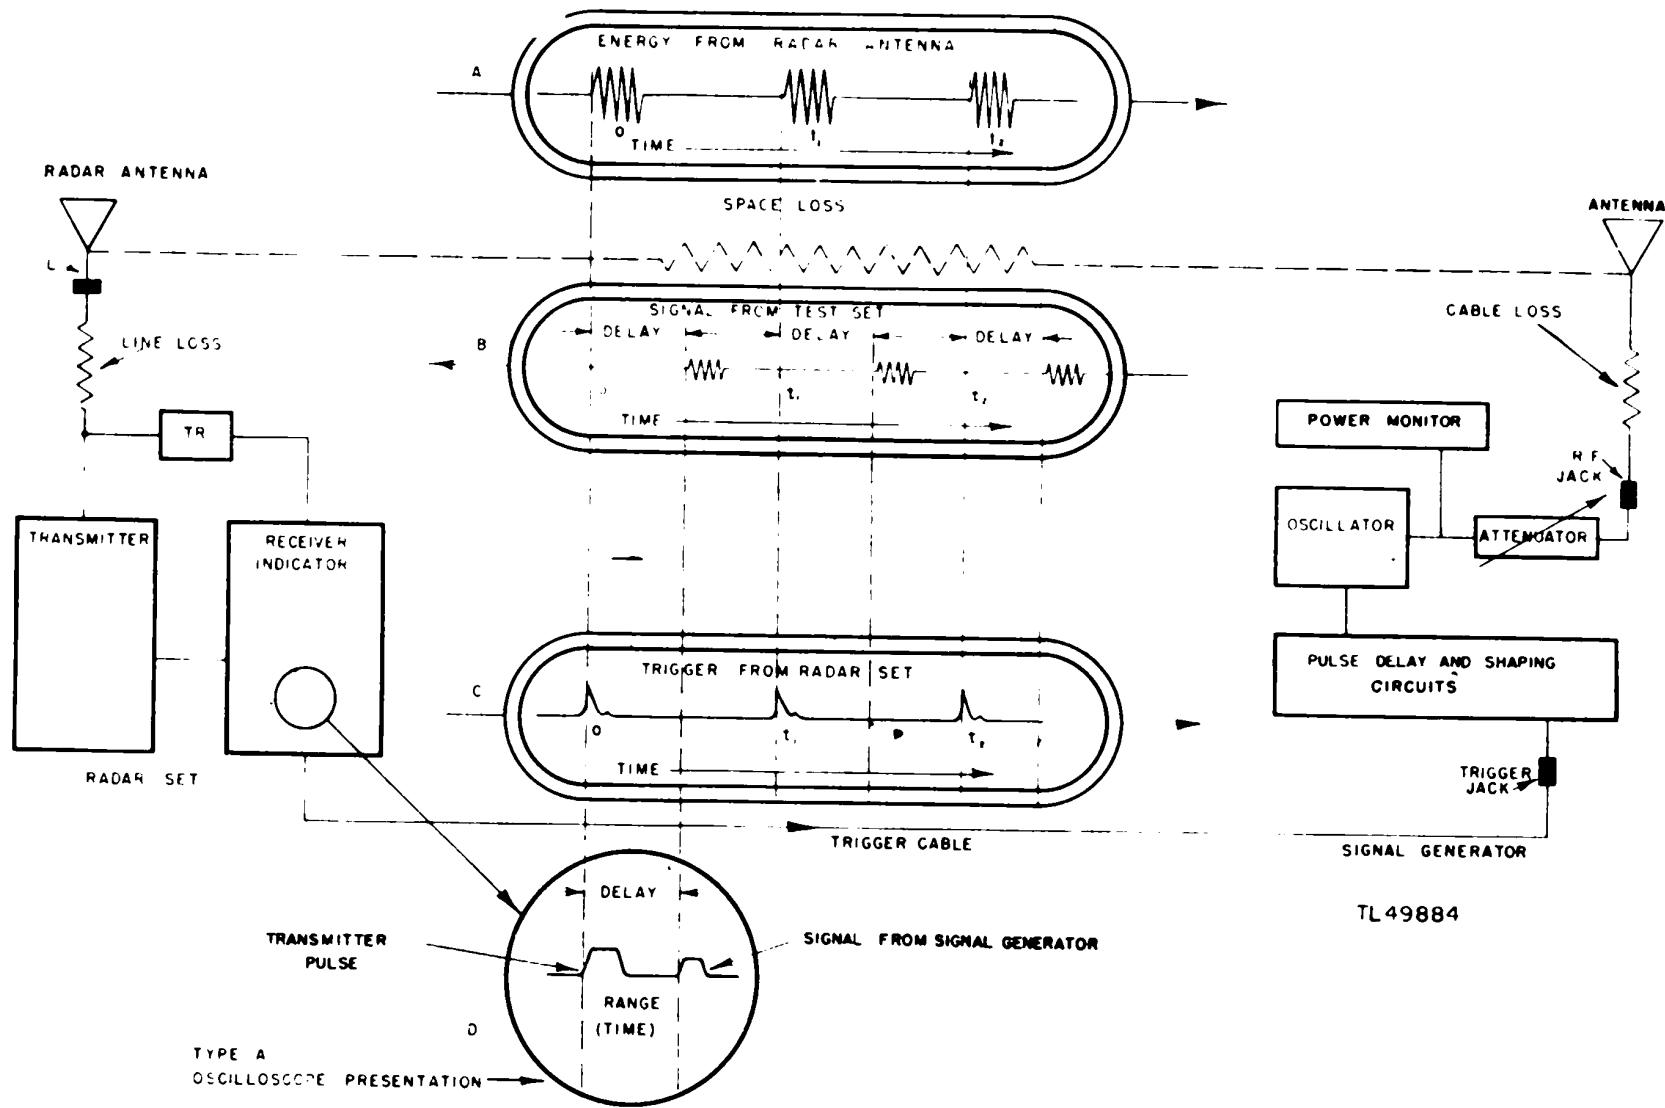

Figure 30. Signal Generator TS-155/UP, operation with radar set.
(1) Pulses of energy from the radar transmitter are radiated by the radar antenna through space, as shown in figure 30. When a dipole antenna is used, part of the energy is picked up by the dipole antenna and transmitted through the cable and signal generator attenuator to the power monitor of the signal generator. When a directional coupler is installed in the radar r-f line at point L of figure 30, a cable can be connected from the directional coupler to the R.F. jack of the signal generator. In this case a fraction of the radar transmitter energy is coupled through the directional coupler, cable, and r-f attenuator to the power monitor of the signal generator. When the signal generator controls are adjusted as outlined in part two, the power monitor meter reads the average power at the R.F. jack directly in milliwatts.
(2) It is not usually necessary to convert transmitter power, as measured at the R.F. jack of the signal generator, to actual power in the radar transmitter line back of the antenna. Once a radar set has been checked while operating normally, it is the knowledge of changes in performance that is of value to the radar operator. Changes in radar performance, as measured by the signal generator, indicate actual changes only if the space loss is kept constant from day to day by maintaining the same distance and relative position between radar antenna and signal generator dipole. To convert to average power behind the radar antenna (point L in figure 30), it is necessary to know the cable loss, dipole antenna gain, space loss, and the radar antenna gain. Alternately, if a directional coupler is installed in the radar transmission line, only the cable loss and the attenuation constant of the directional coupler need be known. The measurement of cable loss, dipole antenna gain, space loss, and radar antenna gain is difficult and requires special equipment not supplied with this signal generator.